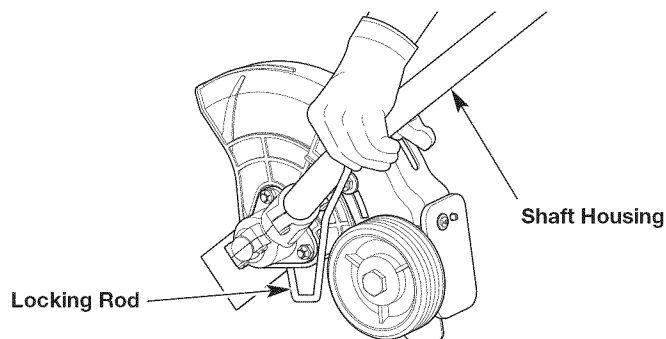

Fig. 8
2. Keep the locking rod in place by holding it next to the shaft housing (Fig. 8).
7. Keep the locking rod in place by holding it next to the shaft housing (Fig. 8).